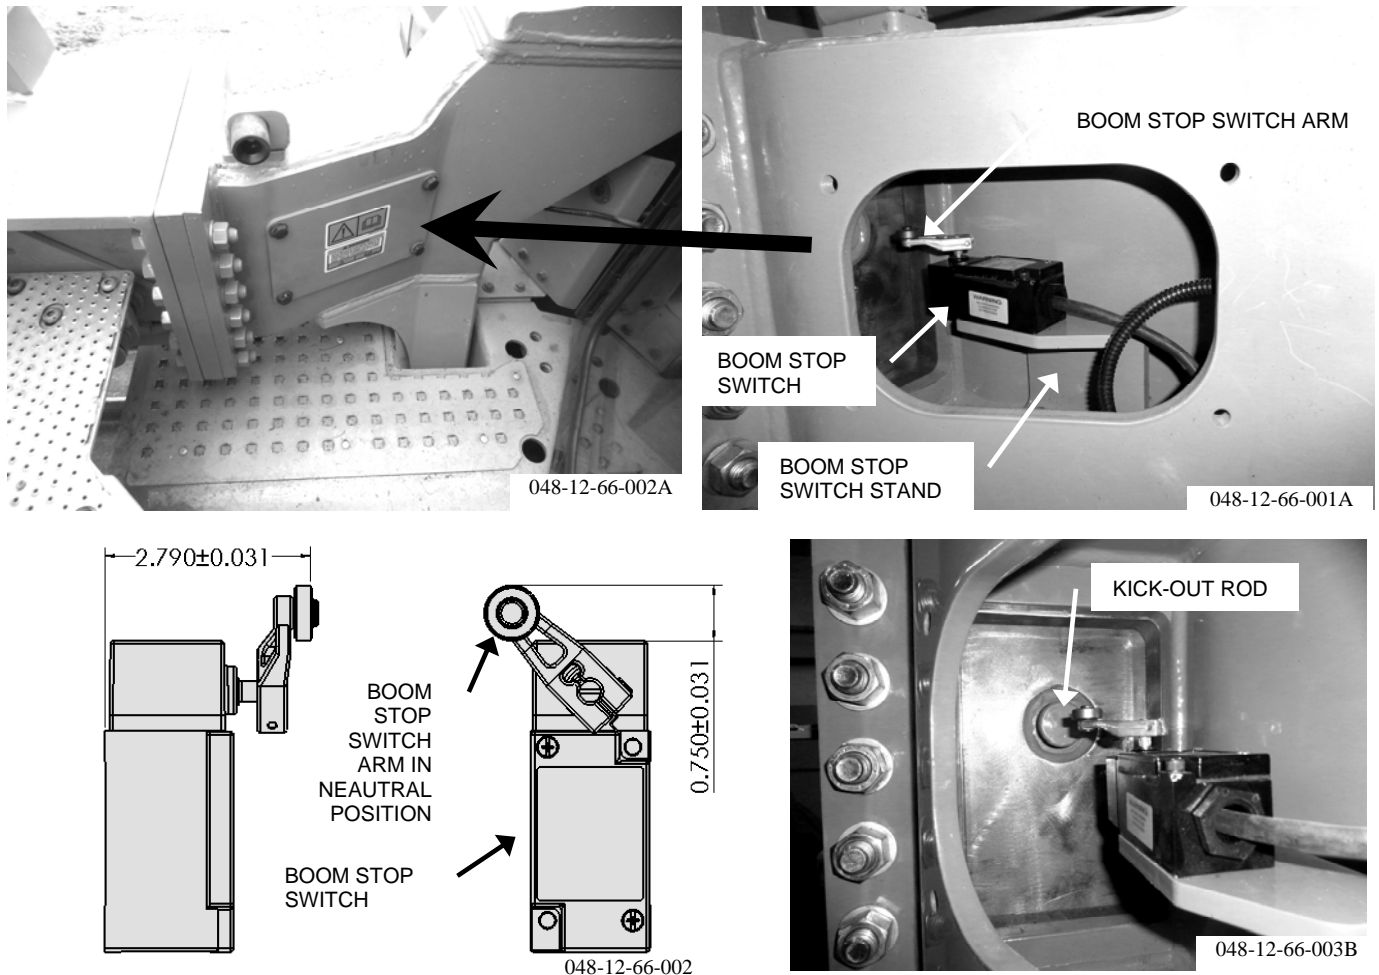

Figure 31: Boom stop switch location & adjustment.
- Ensure boom stop switch arm is adjusted relative to boom stop switch as shown in Figure 31 when in neutral position.
- Ensure boom stop switch is fastened to the boom stop stand as shown in Figure 31.